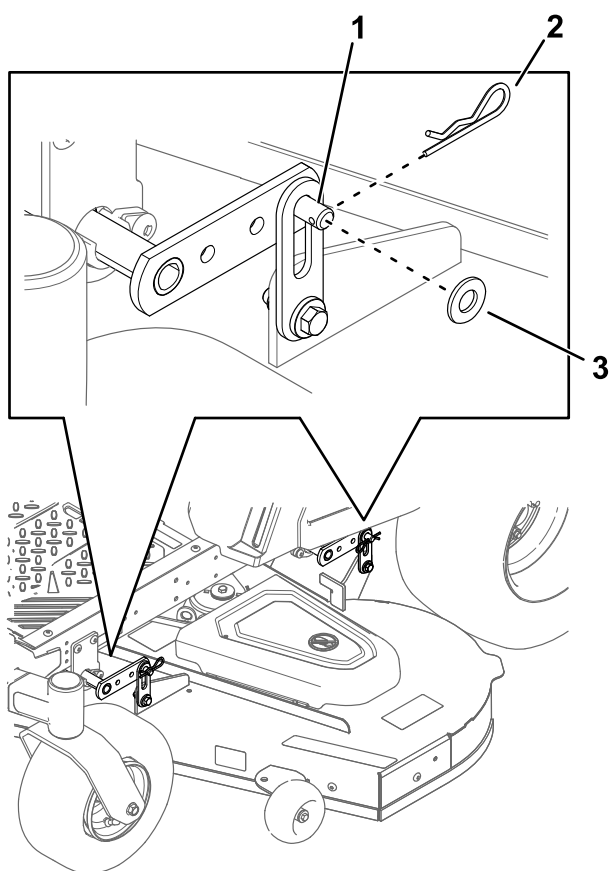

Figure 61
- At all 4 corners of the deck, remove the hairpin cotter and washer from the deck pin (Figure 61).
- Lift the rear of the mower deck and attach the rear deck hangers to the rear deck pins (Figure 61).
- Attach the front deck hangers to the front deck pins (Figure 61).
- Secure the deck pins with the hairpin cotters and washers removed previously (Figure 61).